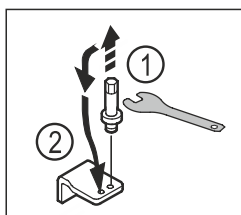

Fig. 14
- Unscrew the bolt of the lower swap bearing block with an Allen key AF5. Fig. 14 (1)
- Insert the bolt on the opposite side. Fig. 14 (2)